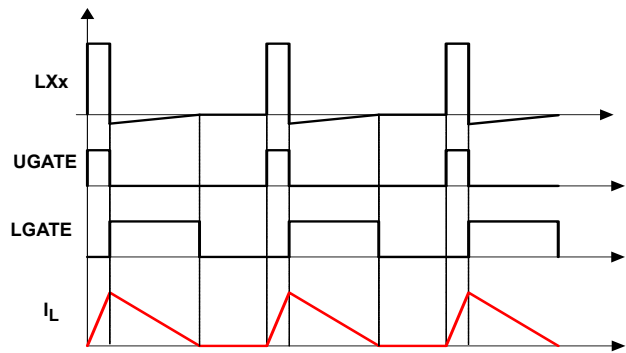

FIGURE 54. DIODE EMULATION
Diode Emulation (DE) allows for higher converter efficiency under light-load situations. In DE mode, the low-side MOSFET conducts when the current is flowing from source-to-drain and does not allow reverse current, emulating a diode. As shown in Figure 54, when the LGATE signal is HIGH, the low-side MOSFET carries current, creating negative voltage on the phase node due to the voltage drop across the ON-resistance. When the DE pin is pulled HIGH, the ISL70003ASEH will be in Diode Emulation mode and detect the zero current crossing of the inductor current, and turn off the lower MOSFET to prevent the inductor current from reversing direction and creating unnecessary power loss. This ensures that Discontinuous Conduction Mode (DCM) is achieved. Because diode emulation prevents the low-side MOSFET from sinking current, no negative spike at the output is generated during prebiased startup when DE mode is active.